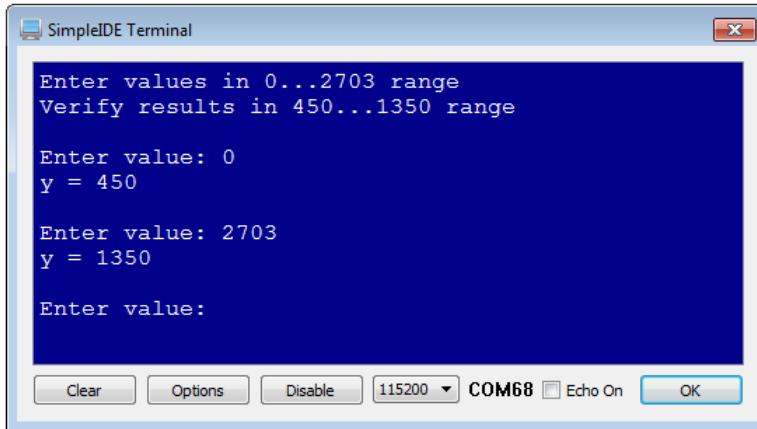

Figure 6-22
- ❑ Click Run with Terminal, and use some test values (like in Figure 6-22) to verify that the code correctly scales and offsets the expected A/D3 input values.